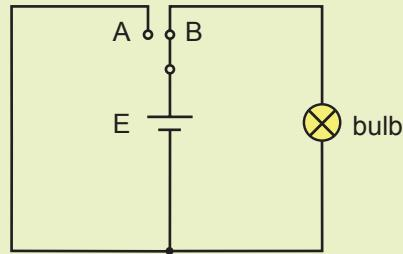

Figure 4.15
2. A student sets up the circuit shown in Figure 4.15. Explain what is wrong with the student's setup.